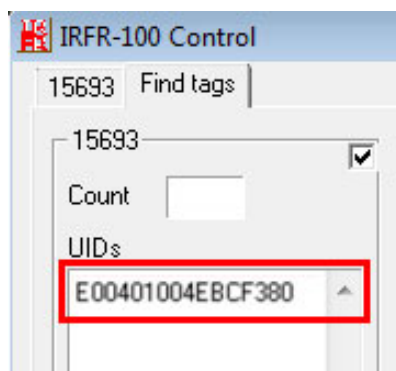

Figure 3-25: IRFR – UIDs
Step 6: Place an RFID card near the RFID reader  on the bottom of the front panel (**Figure 1-2**) then remove it. The card number will be shown in the UIDs column (**Figure 3-25**).